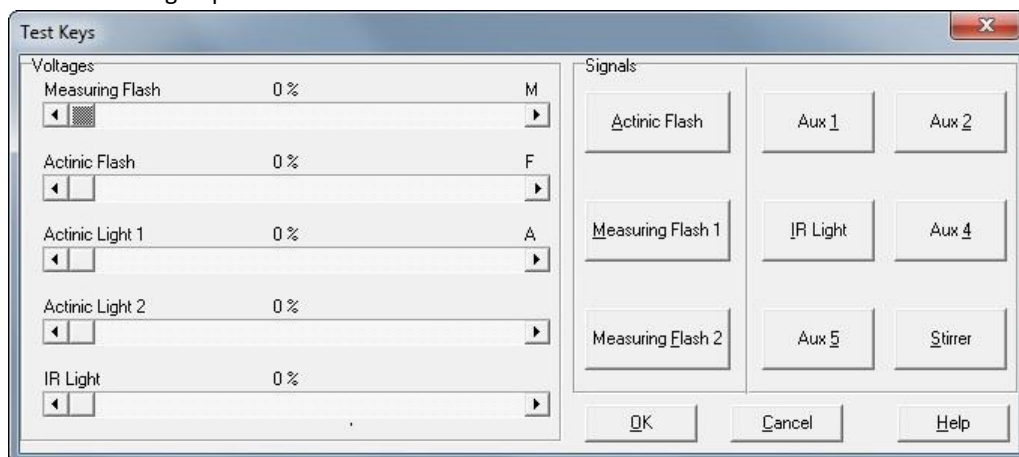

Fig. 59 Test Keys window.
- The Test Keys Window (Fig. 59) sliders allow manual setting of the voltage for Actinic Flash and Actinic Light. Pressing Signals buttons activates LEDs for default duration. For checking the LED function move the Voltage slider of the tested light at least on 60 %. Then look from 20 cm distance into the open measuring unit, press respective button and check visually correct functioning of particular LED.